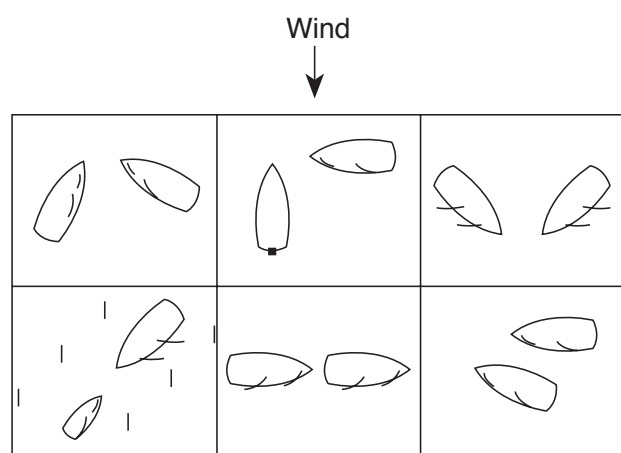

Figure 64.1 Diagram for question 12
13. Redraw the illustrations in Figure 64.1 to indicate who has the right of way in the following situations?